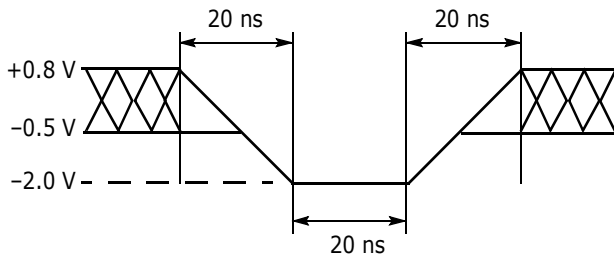
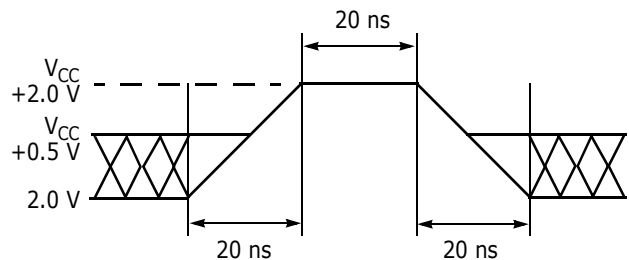

Figure 1. Maximum Negative Overshoot Waveform
Figure 2. Maximum Positive Overshoot Waveform
1. Minimum DC voltage on input or I/O pins is -0.5 V. During voltage transitions, input or I/O pins may overshoot VSS to -2.0 V for periods of up to 20 ns. Maximum DC voltage on input or I/O pins is VCC + 0.5 V. See Figure 1. During voltage transitions, input or I/O pins may overshoot to VCC + 2.0 V for periods up to 20 ns. See Figure 2.
2. Minimum DC input voltage on pins RESET#, and WP#/ACC is -0.5 V. During voltage transitions, WP#/ACC, and RESET# may overshoot VSS to -2.0 V for periods of up to 20 ns. See Figure 1. Maximum DC input voltage on pin RESET# is +12.5 V which may overshoot to +14.0 V for periods up to 20 ns. Maximum DC input voltage on WP#/ACC is +9.5 V which may overshoot to +12.0 V for periods up to 20 ns.